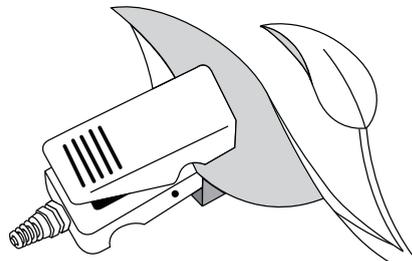

Figure 11 Leaf orientation during adaxial or abaxial conductance measurements
- Orient the leaf appropriately for the measurement. The desiccant chamber must always be oriented down (Figure 11).